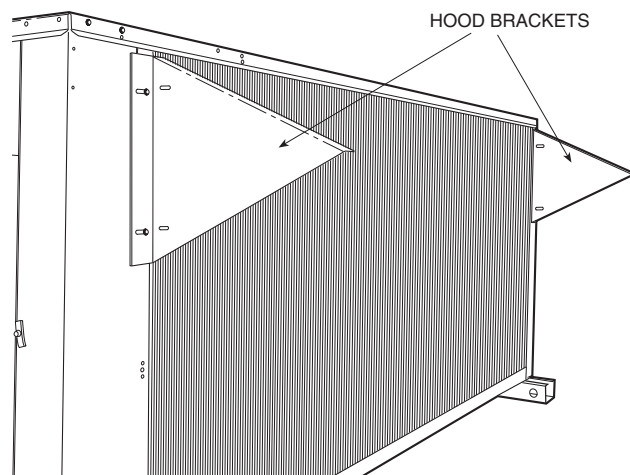

Fig. 2 — Hood Bracket Placement
2. Install Hood Brackets with top flange facing toward coil (see Fig. 2).